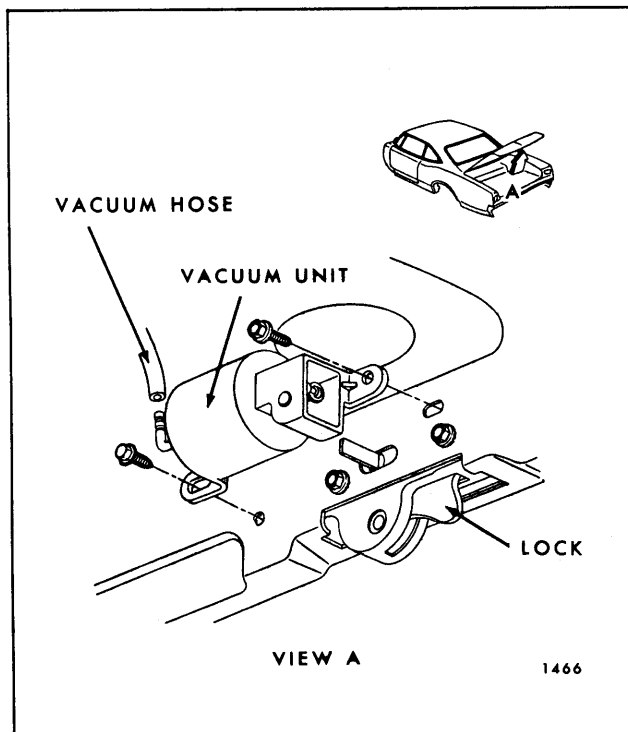

Fig. 8-23—Rear Compartment Lid Vacuum Release Unit - Exposed Type
2. Disconnect vacuum hose from vacuum release unit. Remove attaching bolts shown in illustration and remove vacuum unit (Figs. 8-23 and 8-24 for typical illustrations).